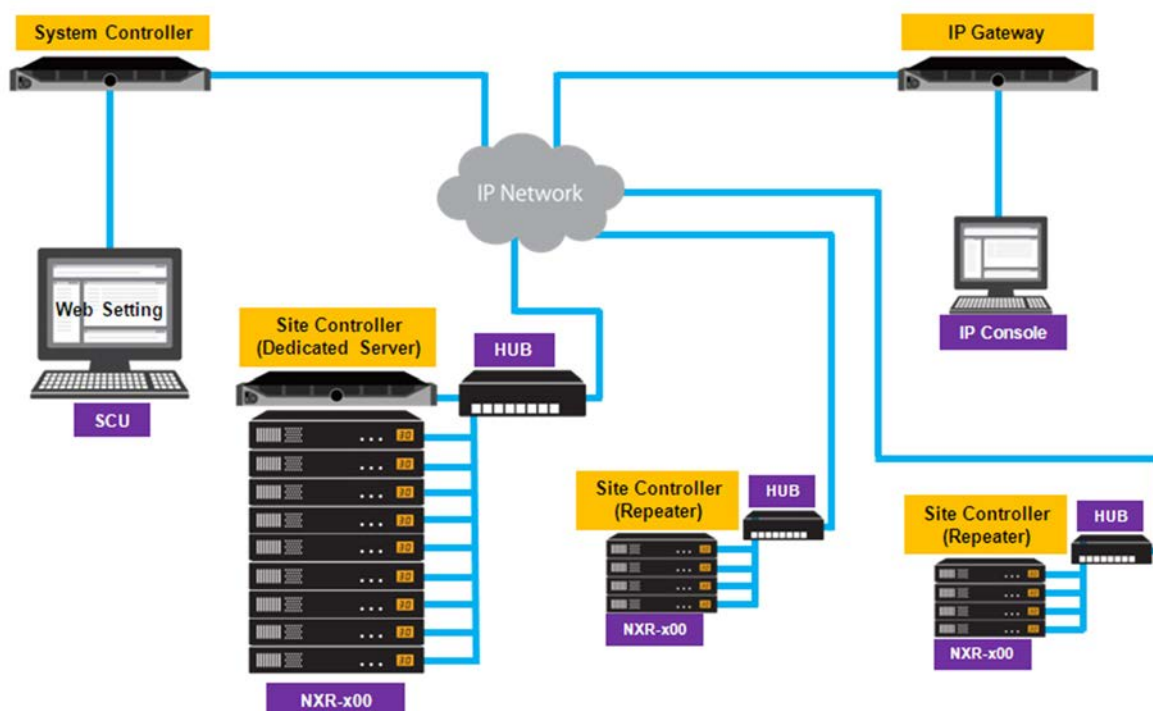

Figure 1-1 Basic Structure of a NEXEDGE System
- In the figures after Figure 1-1, the repeater described as NXR-x00 also includes NXR-5x00. Refer to 3.6 STEP 5: Structure of a Site on page 37 for the procedure to connect a system structure.